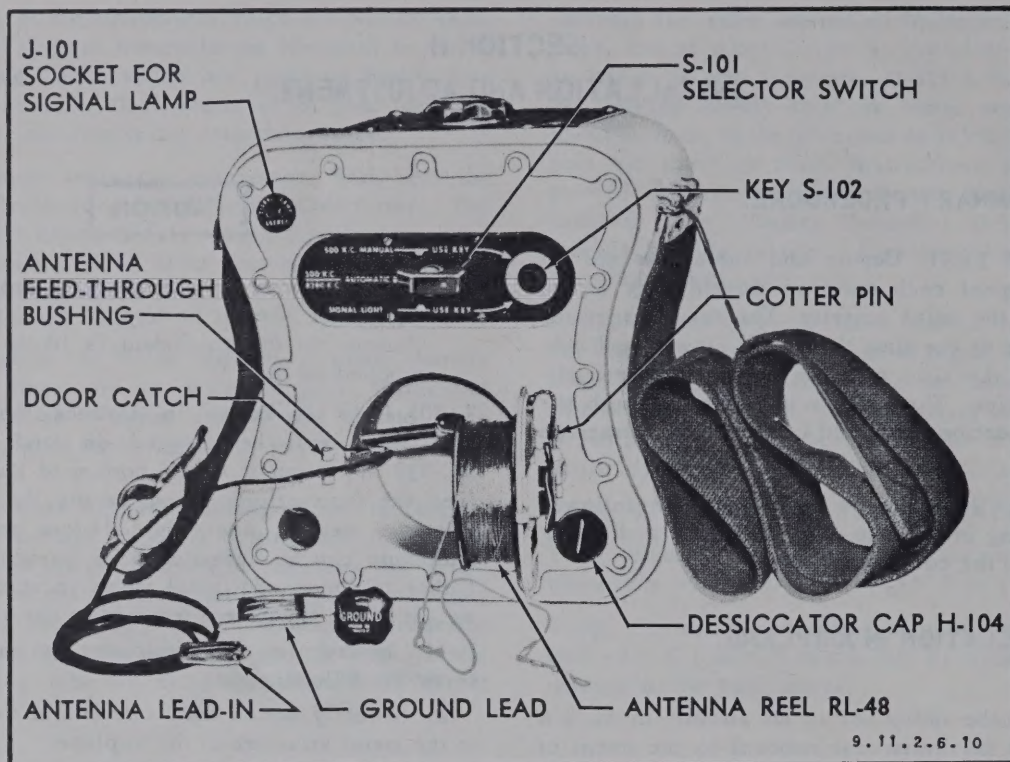

Figure 2-1. Radio Transmitter T-74/CRT-3—Front View
- a. Remove the cotter pin and open the door on the front panel of the transmitter. (See figure 2-1.) Keep the door open by sliding the cotter pin into the holes provided on the door hinges.
d. Unscrew the cap marked GROUND and remove the groundwire reel. (See figure 2-1.) If necessary, use the wrench attached to the transmitter to loosen the cap.